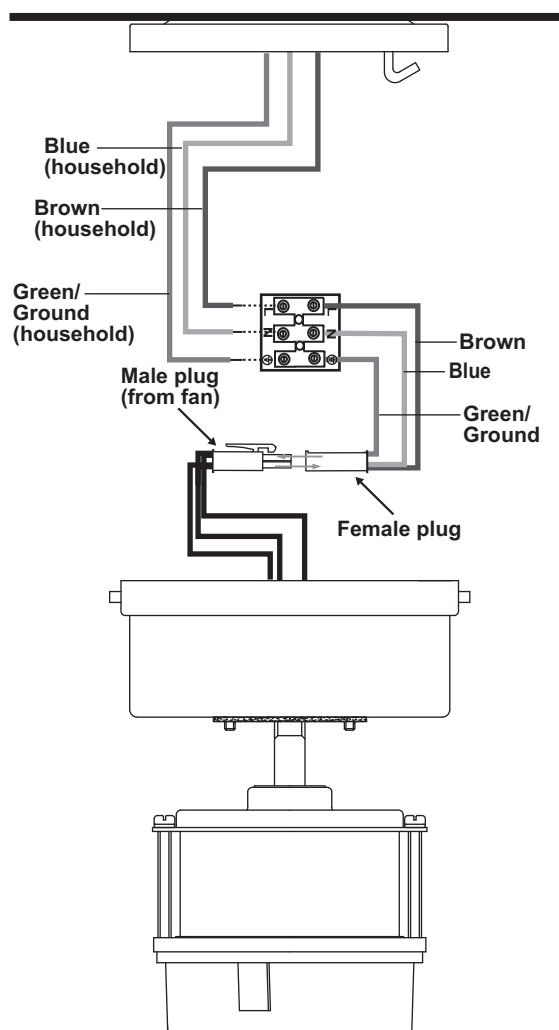

Figure 3
1. Connect the blue, neutral household neutral wire to the terminal block "N" hole. Connect the brown, Live/hot household Live/hot wire to the terminal block "L" hole. (Fig. 3)
2. Connect the green/ground wire from the household to the terminal block "⊕" hole. (Fig. 3)
3. Be sure to snap together the male and female plugs. (Fig. 3)